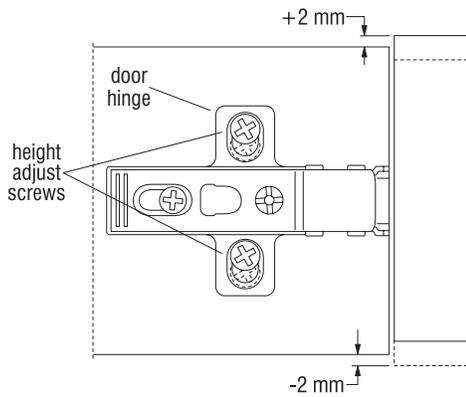

Figure 3 - Door Height Adjustment
1. For **door height adjustment** of +/-2 mm, loosen the two height adjust screws on each hinge and move door up or down. Re-tighten screws (Figure 3).